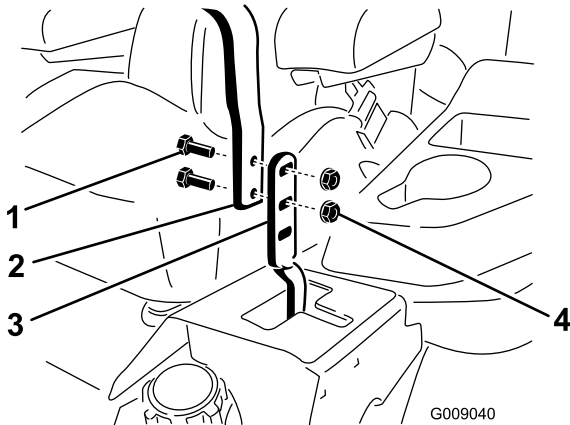

Figure 63
3. Loosen the bolts and flange nuts installed in the levers (Figure 63).